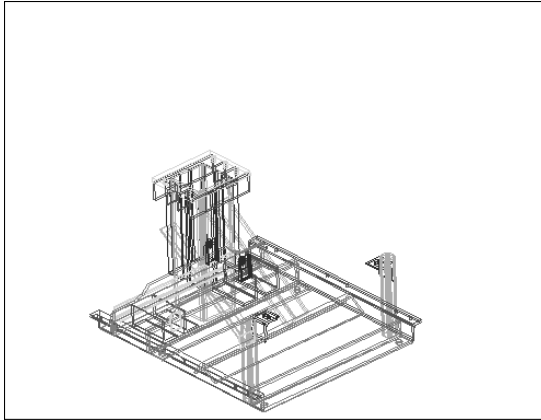

**Figure 28-17:** The DWF file as seen in Autodesk DWF Viewer.
2. Autodesk DWF Viewer opens automatically and displays the DWF file that was created in the previous exercise. From the Contents item on the left pane of the Autodesk DWF Viewer, choose the second sheet, labeled `[2]ab28-01-Iso (11.0 x 8.5 in)`, as shown in Figure 28-17.